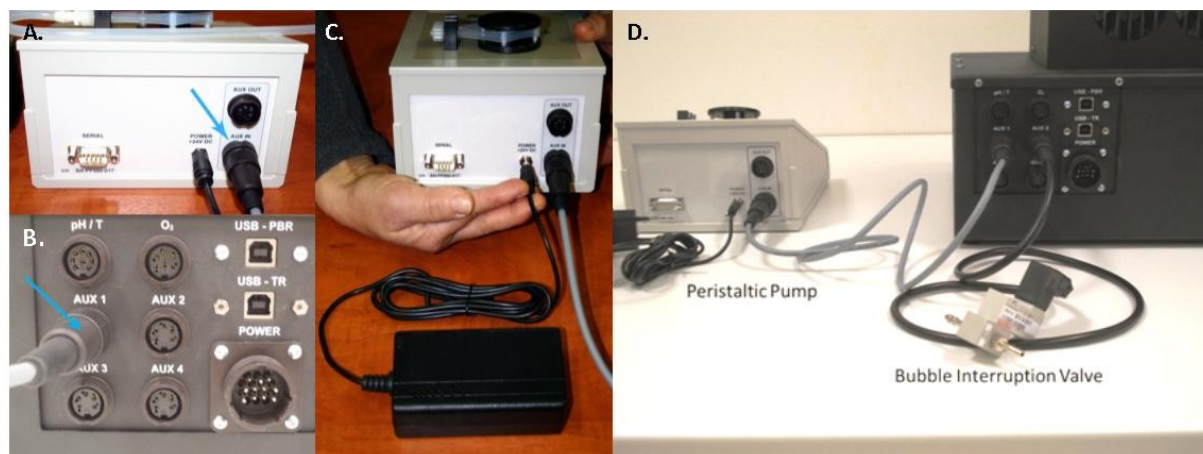

Fig. 47: Connection of peristaltic pump with PBR FMT150.2.
- Install the wiring connections for the peristaltic pump as shown in Fig. 47.